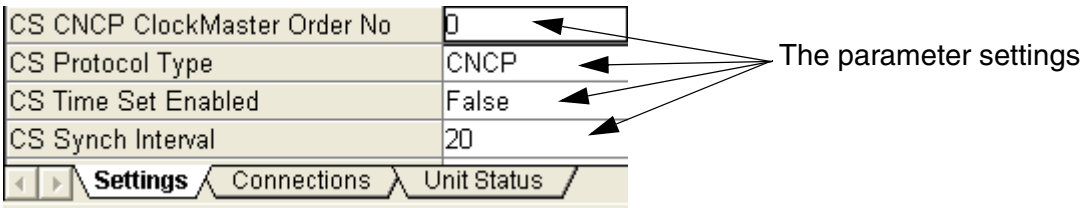

Figure 88. The parameter settings under the Settings tab in the hardware editor.
- 3. Set the following (four) parameters according to Figure 88. The setting *CS Time Set Enabled* can be set to `True` if local time source is used.